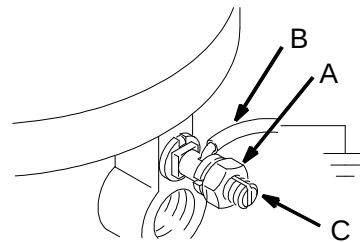

Fig. 3
1. *Pump:* Loosen the grounding lug locknut (A) and washer. Insert one end of a 12 ga (1.5 m2) minimum ground wire (B) into the slot in the lug (C). Tighten the locknut securely. See Fig. 3. Connect the other end of the ground wire to a true earth ground. Order a Grounding Clamp, P/N 103-538, and a Grounding Wire, P/N 208-950, (25 feet (7.6 m) long, 12 ga.).